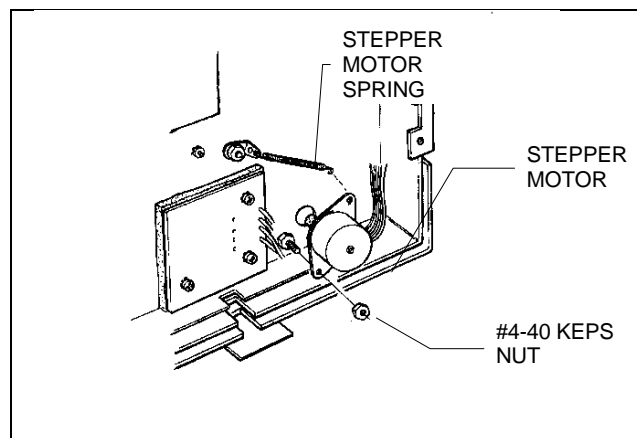

Figure 6- 10. Removing the stepper motor
5. Disconnect the spring from the stepper motor. (Figure 6- 10)